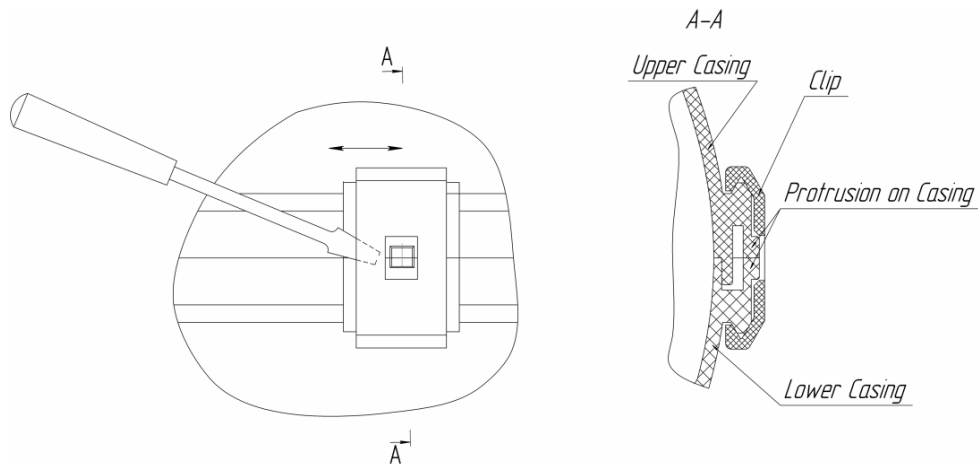

Fig.1- Removal of clips from casing.
- a) Remove clips. To remove clip, use screwdriver (with a thin tip) to pry the clip out and slide it left or right for full release (Fig. 1)
- remove upper and lower casing shells (Fig.1)